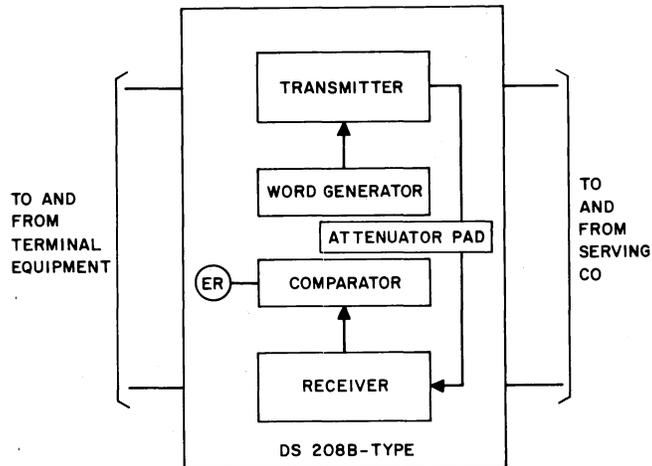

Fig. 13—Analog Loop-Back Self Test Mode
- (a) To perform an analog loop-back self test, depress both the ST and AL switches. In this case, the data set will be arranged as shown in Fig. 13 and the ER lamp will flash each time an error is detected.